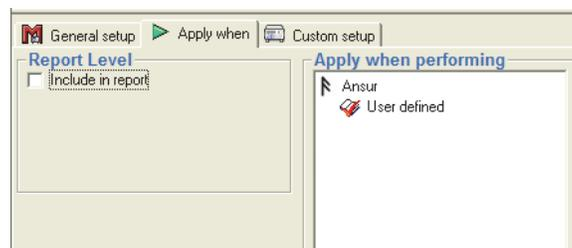

Figure 4-16. Remove Test from a Report
5. Click the checkbox to the left of **Include in report** in the Report Level panel so the check does not show. See Figure 4-16.